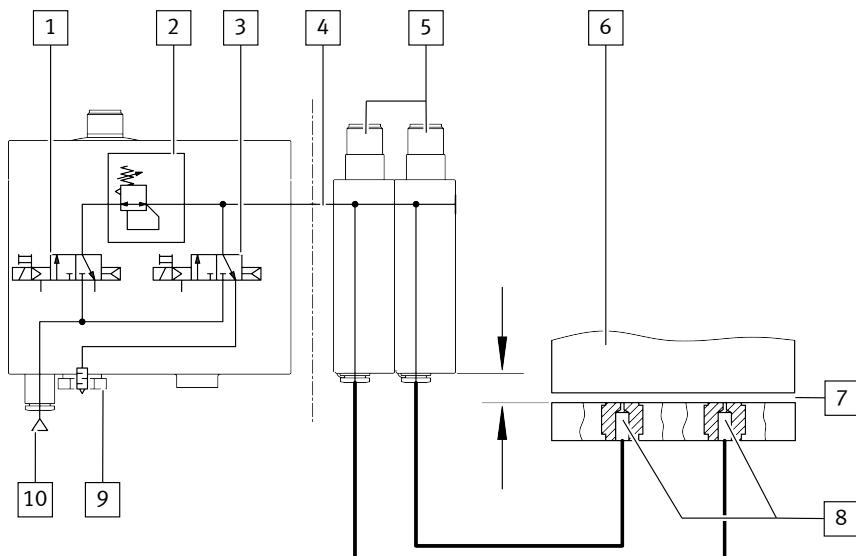

Fig. 6: Configuration with a control module and two sensor modules
1. Place sensor module above the measuring nozzles → Fig. 6.